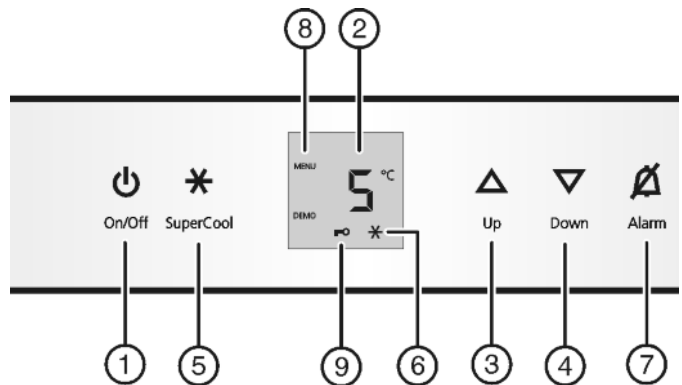

Fig. 2
- ▶ Press On/Off button Fig. 2 (1).
- ▶ To activate the setting mode: press SuperCool button Fig. 2 (5) for about 5 s.
- ▷ The menu symbol *Fig. 2 (8)* shines.
- ▶ Briefly press the SuperCool button *Fig. 2 (5)* to confirm.
- ▶ to activate the child lock, briefly press the SuperCool button *Fig. 2 (5)*.
- ▷ The child lock symbol *Fig. 2 (9)* shines. **cl** flashes in the display.
- ▶ to deactivate the child lock, briefly press the SuperCool button *Fig. 2 (5)*.
- ▷ The child lock symbol *Fig. 2 (9)* goes out. **cl** flashes in the display.
- ▶ To deactivate the set-up mode: press On/Off button *Fig. 2 (1)*.
- ▶ Press alarm button *Fig. 2 (7)*.
- ▶ For a higher temperature setting: press Up button *Fig. 2 (3)*.
- ▶ For a lower temperature setting: press Down button *Fig. 2 (4)*.
- ▶ Briefly press SuperCool button *Fig. 2 (5)*.
- ▷ The SuperCool symbol *Fig. 2 (6)* lights up in the display.
- ▷ The SuperCool symbol *Fig. 2 (6)* goes out in the display.